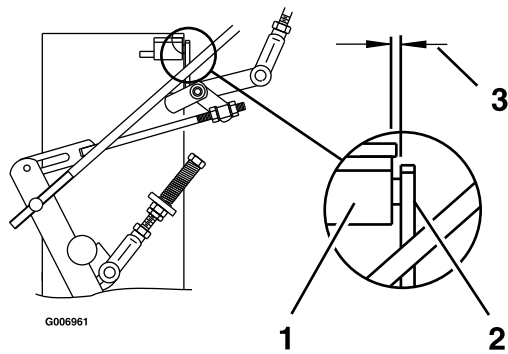

Figure 16
2. Move the speed control lever (located on the console) to the full forward position and check the orientation of the tabs on the ends of the speed control crank (see Figure 16). These tabs should be pointing straight down at the 6 o'clock position or slightly forward. Adjust the threaded yoke at the bottom of the
speed control linkage (see Figure 16) until the tabs are positioned correctly.
3. Pull the speed control lever back to neutral. Check that the neutral safety switch actuating tab has depressed the plunger of the switch so that there is about 5/16 inch (7.9 mm) between the tab and the switch (see Figure 16). If necessary, move the switch fore and aft.